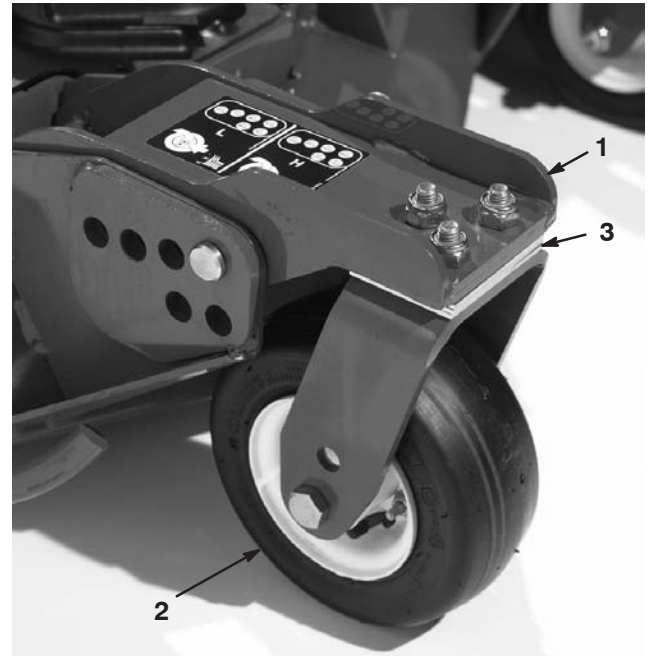

Figure 79
1. Remove the capscrews and nuts securing the castor arm to the castor fork (Fig. 79).